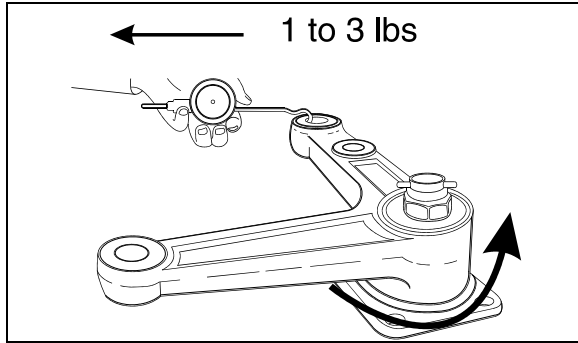

FIGURE 19: BELL CRANK
11. Unscrew nut until bell crank or idler arm starts to turn with the application of 1 to 3 lbs force load as shown on figure 19.